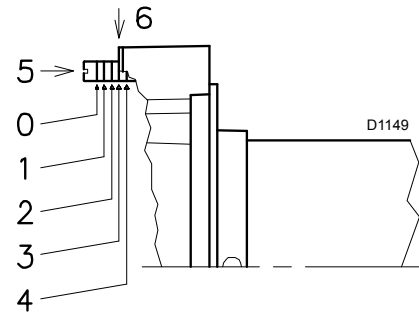
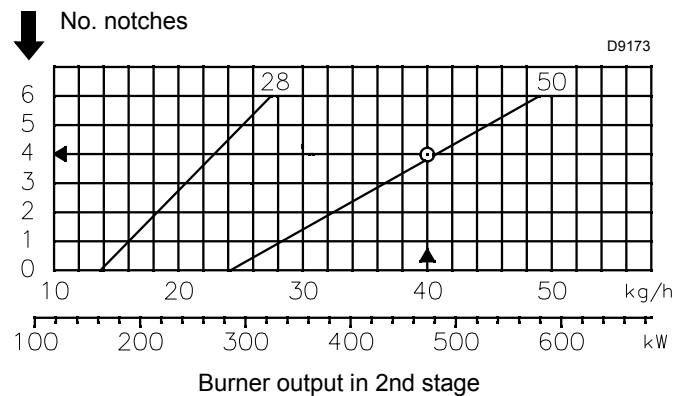

Fig. 18
Fig. 19
- Turn the screw 5)(Fig. 18) until the notch indicated by the diagram (Fig. 19) corresponds with the front part of the flange 6)(Fig. 18).
- The diagram (Fig. 19) shows that for this output, the adjustment of the combustion head is carried out on the notch 4, as in Fig. 18.